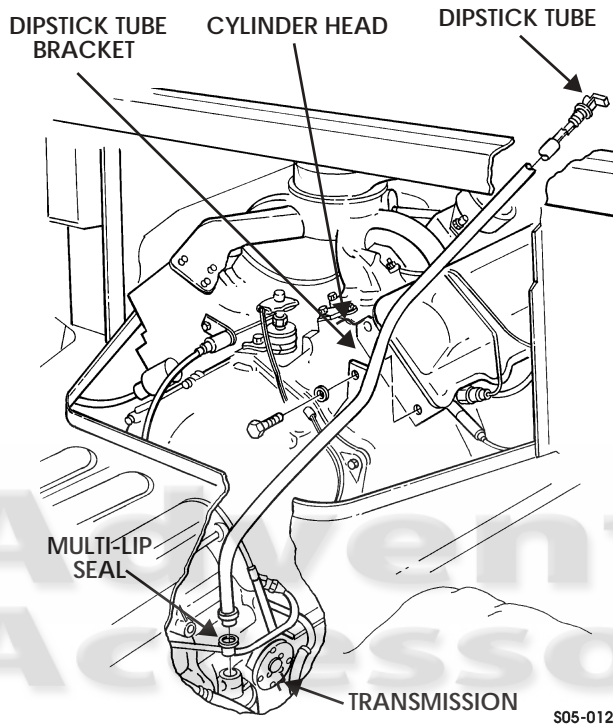

Figure 5-53: Dipstick Tube
8. Remove capscrew and washer from dipstick tube bracket and cylinder head (Figure 5-53).